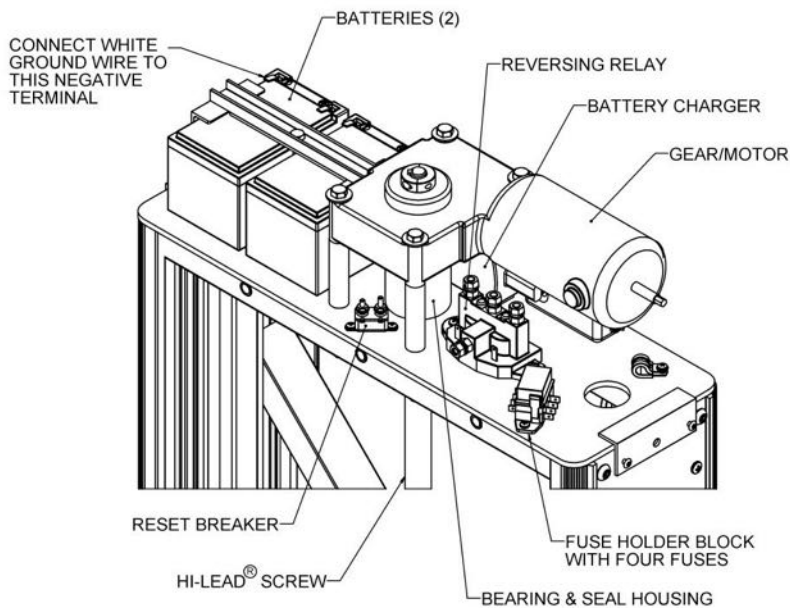

FIG. 4.14
26. The VPL is shipped with the white wire which connects to the negative battery terminal disconnected. Without standing on the platform, locate and reconnect the wire (there should only be one open terminal on the batteries, see FIG. 4.14. The VPL should not operate when the wire is connected to the battery as long as the keyed switch is the Power “OFF” position. However, in case of unexpected operation, be sure you are positioned to prevent injury in case the VPL operates accidentally when the wire is connected.